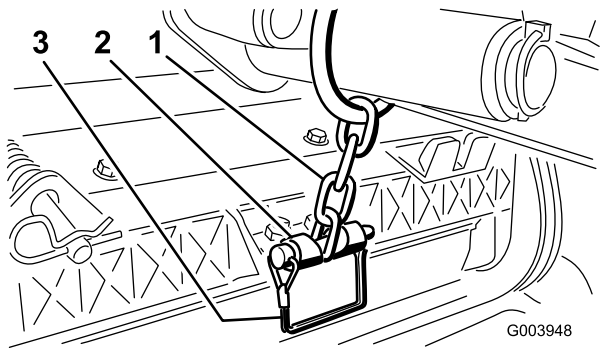

**Figure 9**
**Note:** You can use the slot for a steering cutting unit or use the hole to lock the cutting unit in position (Figure 9).